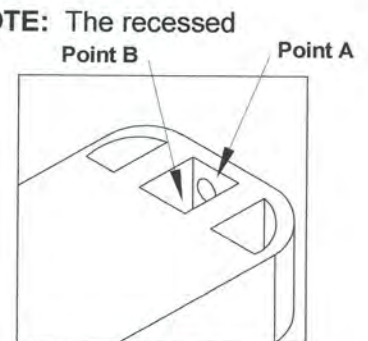

Figure 1
Attach the brackets to their desired location using the (8) longer screws. Cut out the recessed hole Point A on each end of the LED Micro-Lites. (NOTE: The recessed holes can only be seen from the bottom of the LEDs.) See Figure 1. Then place the Micro-Lites into the brackets and attach them using the shorter screws and locknuts. The (4) gaskets will not be needed.
Cut out the recessed hole Point B on each end of the LED Micro-Lites. (NOTE: The recessed holes can only be seen from the bottom of the LEDs.) See Figure 1. Drill the (8) holes on the mounting surface for the (4) LED Micro-Lites using an LED Micro-Lite as a guide. Place the (4) gaskets under the LED Micro-Lites. Attach the LED Micro-Lites using the (8) longer screws provided. The (4) brackets, (8) shorter screws and (8) locknuts will not be needed.